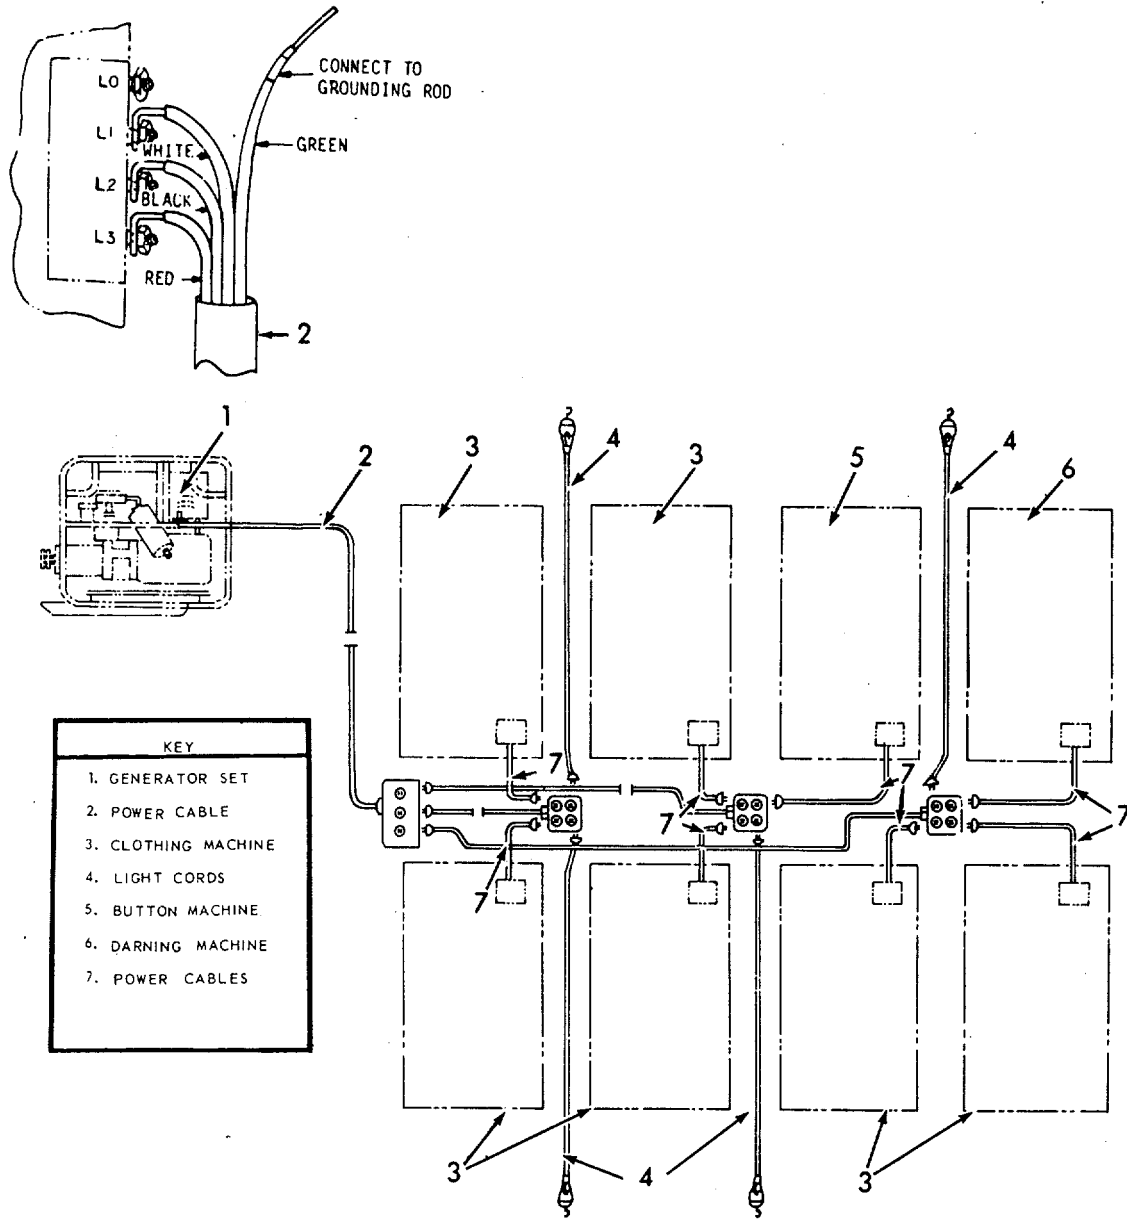

Figure 2-17. Schematic Diagram Showing Sewing Machines Connected to Generator Set.
- (1) Refer to Figure 2-17. Connect white wire from power cable to L1, black wire to L2, and red wire to L3 terminals on generator set. Connect the green wire to the ground leg.